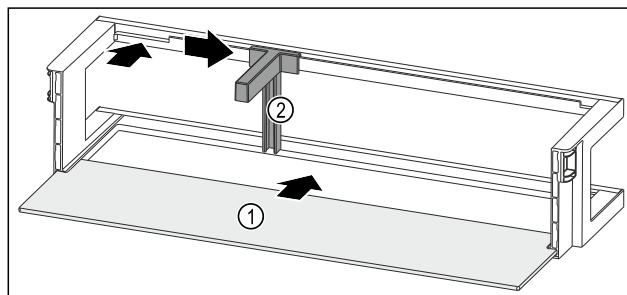

Fig. 141 Door rack with shelf
- ▶ Push the shelf Fig. 141 (1) into the side recesses.
- ▶ Insert the bottle holder Fig. 141 (2) in the recess.
- ▶ Push the bottle holder Fig. 141 (2) to the desired position to the side.